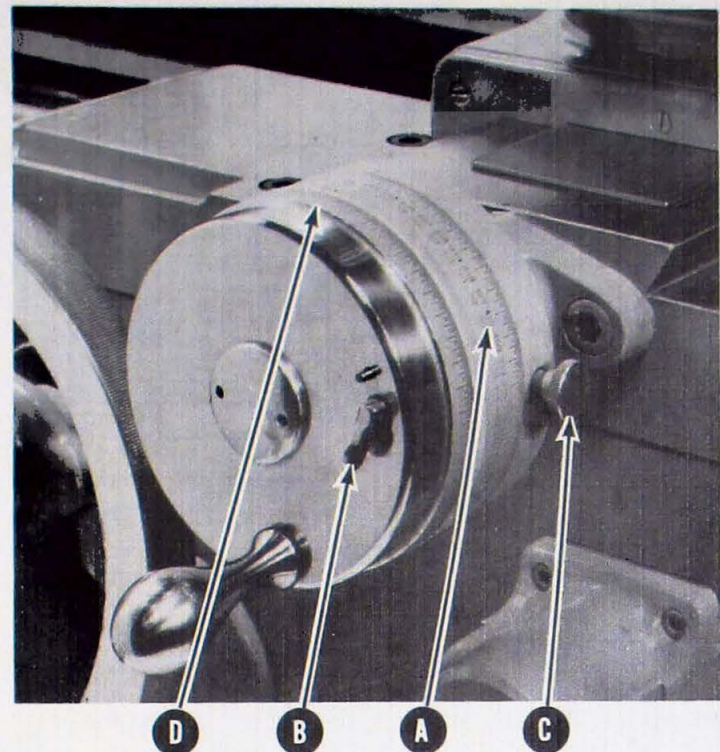

FIGURE 8
Cross feed diameter dial (A), Figure 8, is graduated to read in one thousandths of an inch.